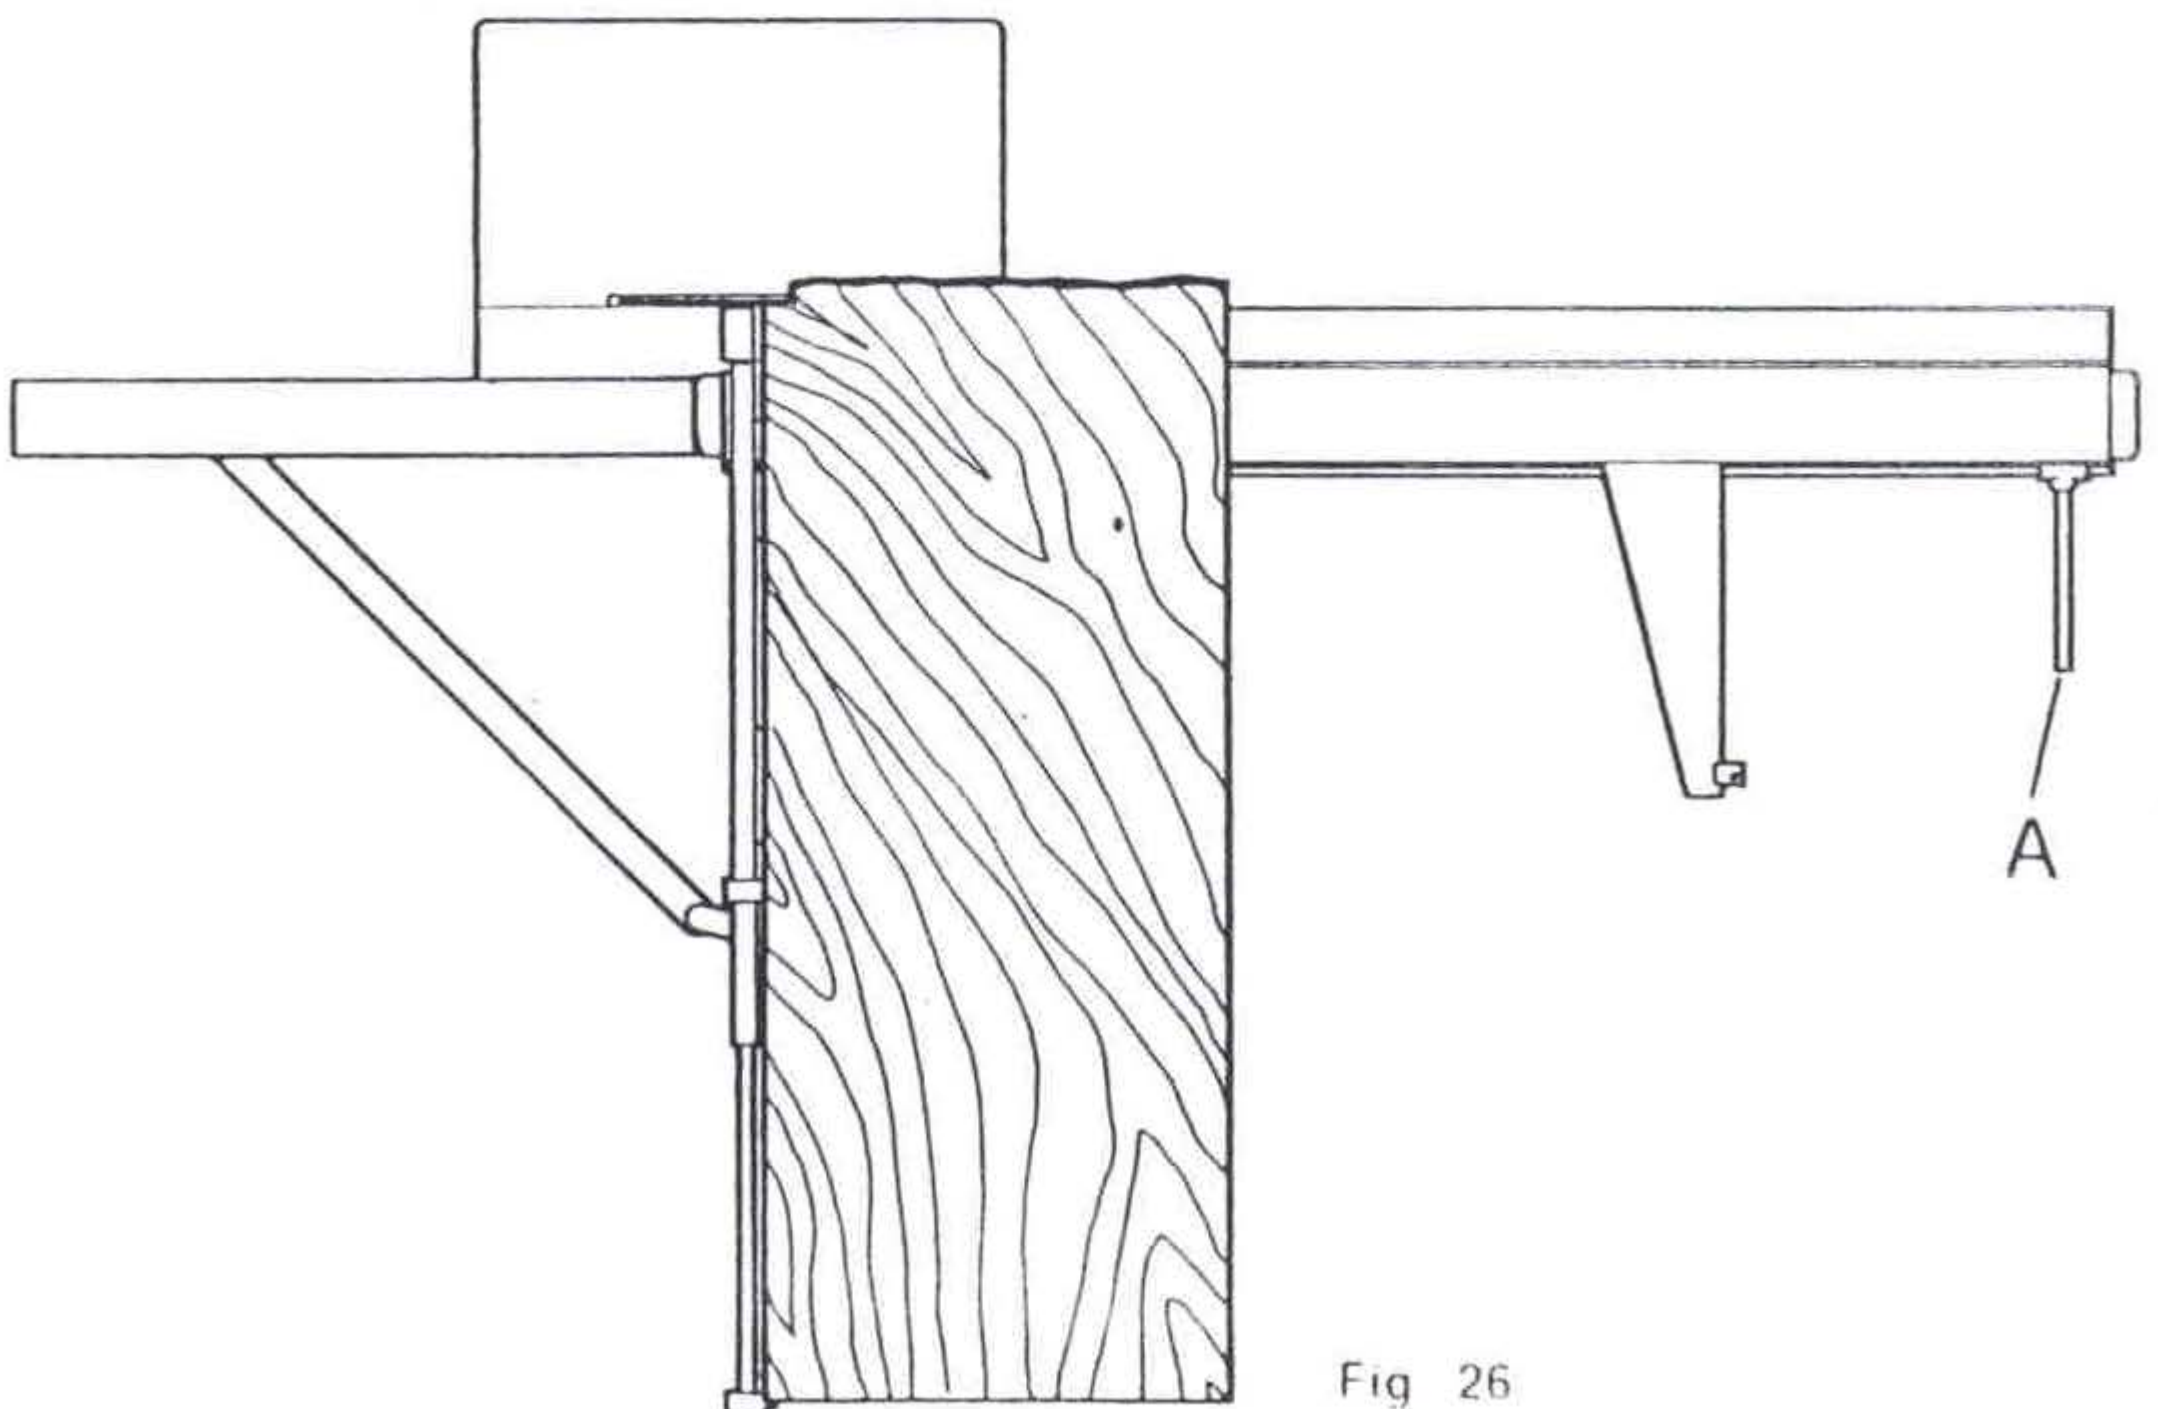

Fig. 26
- Finally the panel is turned up and given the second trimming by leaning it against the aluminium fence and using the stop pawl for the measure (fig. 26)